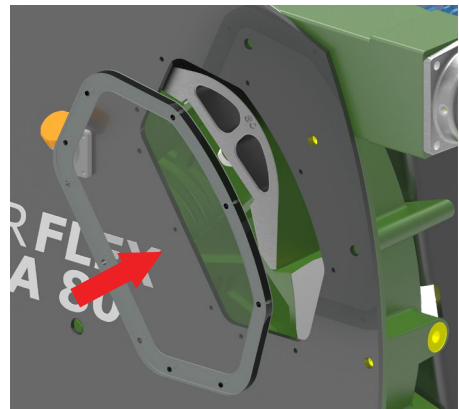

Figure 7. - Fitting the inspection window
3. Mount the window unit, with the bolts and gasket, over the front cover, aligned as shown in Figure 7.